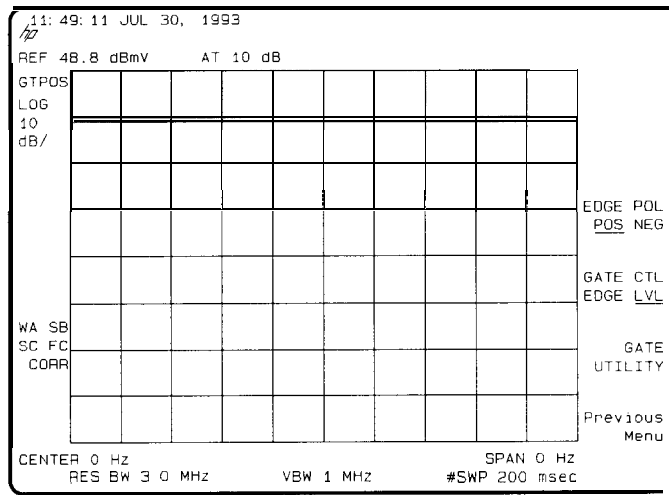

Figure 5-31. Using the level Gate Control
4. To check the gate control function, press SWEEP, Gate Control , GATE CTL EDGE LVL so that LVL (level) is underlined. (See Figure 5-31.)